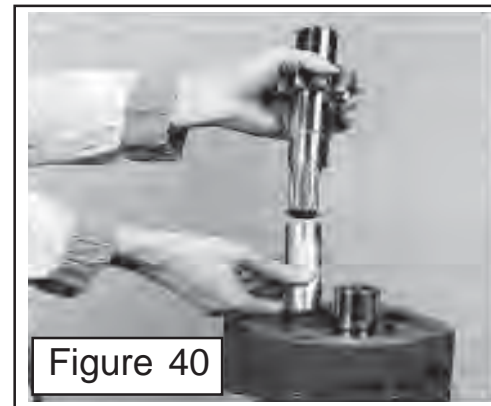

Figure 40
15. Coat the driven gear journal with light coat of oil, Slide the driven gear (figure 10 item 9) through the housing and into the bushing in the shaft end cover (figure 40) Coat the drive gear (figure 10 item 9) splined shaft end with light coat of grease, insert shaft into the special steel sleeve (figure 7 recommended tools list). Lightly coat the steel sleeve with grease. Place the lightly greased drive gear shaft inside the sleeve and slide both through shaft end cover with a twisting motion until the integral gear rest against thrust plate. Avoid damaging double lip seal. Remove steel sleeve, squirt clean oil over gears (figure 40). **Note** purpose of sleeve is to prevent splines on the shaft from damaging double lip seal.